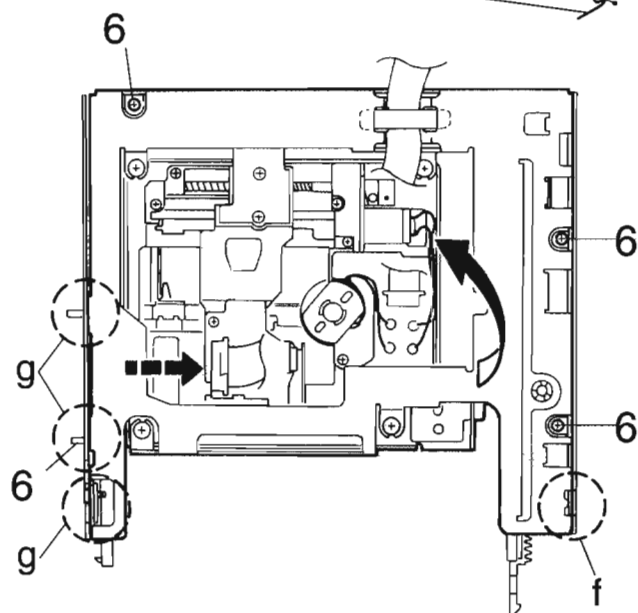

Fig.11
(see Fig.11 -14)
2. Remove the four screws 6 attaching the Traverse mechanism mounting assembly. Lift the assembly to release the joint (f) (see Fig.14), and move it in the direction of the arrows (see Fig.11) to release the joint(g) (see Fig.11,13 and 14).